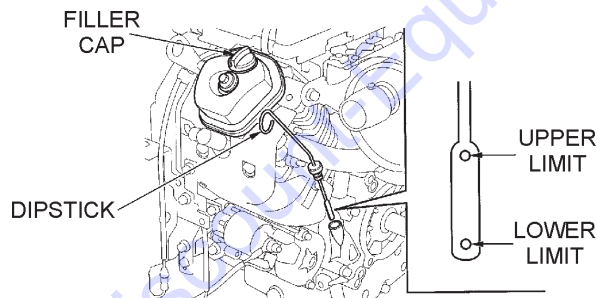

Figure 7. Engine Oil Dipstick
2. Remove the dipstick from its holder as shown in Figure 7 and wipe clean.
4. If the oil level is low (Figure 7), fill to the correct operating level with the recommended oil type as listed in Table 3. See Table 2 for engine oil capacity.